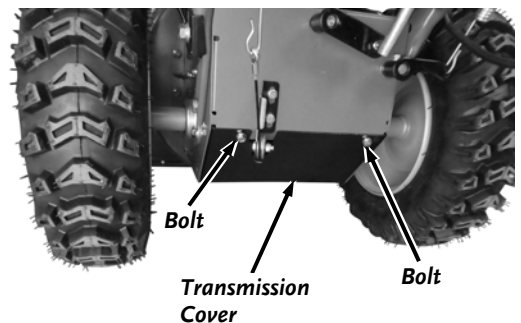

Figure 49
3. Remove the two Bolts that secure the Transmission Cover using a 10mm Wrench and remove the Transmission Cover (**Figure 49**).
15. Install the Transmission Cover (**Figure 49**).